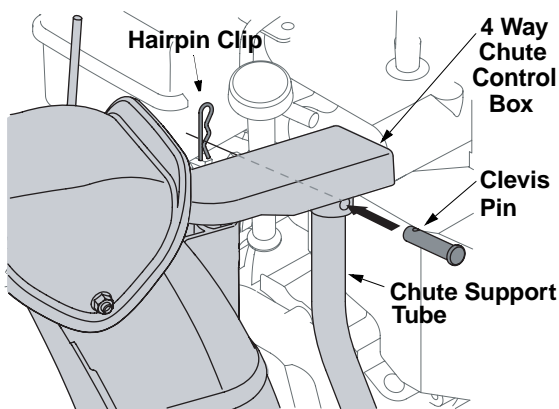

Figure 5
4. Insert the clevis pin, earlier removed, through the holes on the chute control box and chute support tube. Secure with the hairpin clip. See Figure 5.